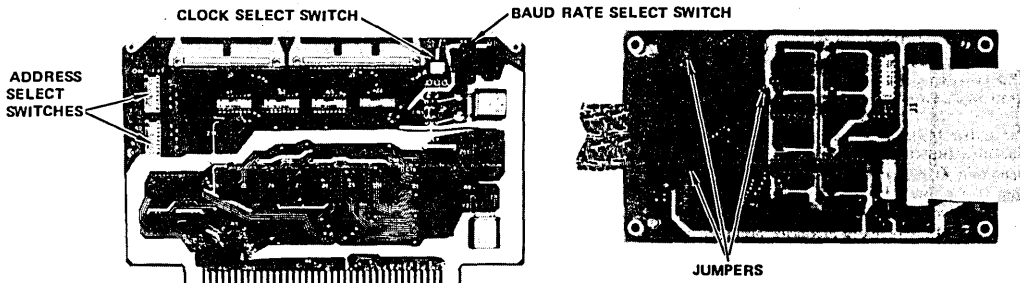

Figure 3. USER 65 Host and Buffer Modules
4. Set switches S1, S2, S3 and S4 on the USER 65 Host Module per Table 2. The switch positions are shown in Figure 3.
Since the Buffer Module is designed to support all CPU's in the R6500 family, specific jumpers or straps must be inserted to support the exact CPU being emulated. Table 5 gives the strapping requirements. Jumper locations are shown in Figure 3.